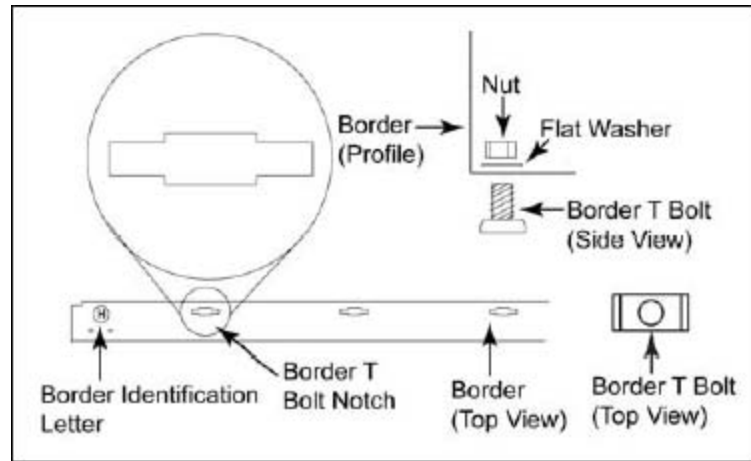

Figure 3: Border Assembly
3. Push the border T-bolts through the border T-bolt notch. Turn the bolt 90° to lock the bolt into the channel. Refer to Figure 3.
7. Tighten the border T-bolts. Refer to Figure 3.